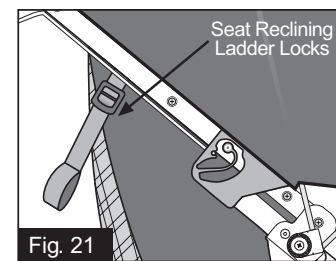

Fig. 21
**12. RECLINING SEAT:** Set parking brake before making any seat adjustments. To recline the seat, rotate the ladder lock buckles (Fig. 21) forward thus releasing the reclining straps. To raise the seat, pull the reclining strap loops until you obtain the desired position. The seat back can be adjusted to recline anywhere between the fully upright position and the fully reclined position (Fig. 21 & 22).